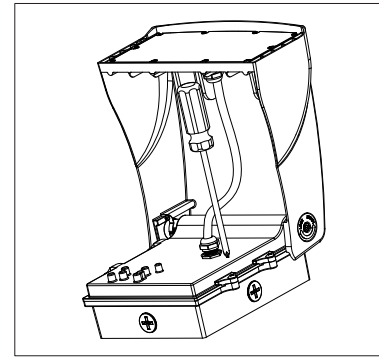
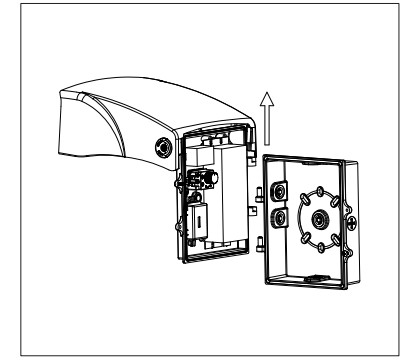

Figure 3
Figure 4
STEP 2: Use a screwdriver to remove the screws on the driver box cover and separate the driver box from the radiator (Figure 3 & Figure 4)